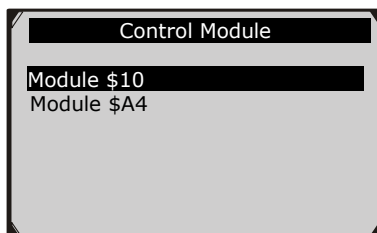

Figure 5.2
- If more than one module is detected, you will be prompted to select a module before testing. (Figure 5.2)